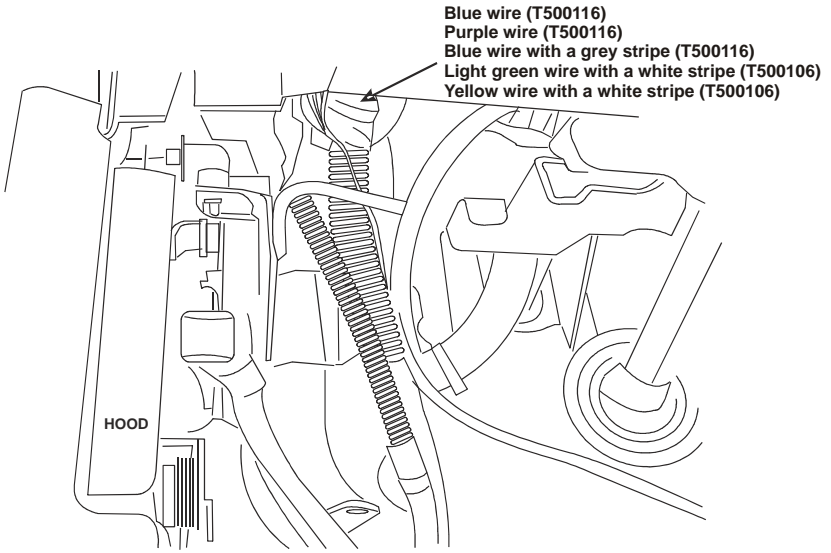

Figure 3
- Solder and seal the white wire to the OEM light green with white stripe Clean Tach Out (CTO - Ford CCT #76) wire located in the bundle of blunt cut wires near the park brake (Figure 3).
- Connect the red wire to the key switched 12V OEM purple wire (Ford CCT CBP44) located in the bundle of blunt cut wires near the park brake (Figure 3).
- Solder and seal the white wire to the OEM blue wire (Clean Tach Out CTO-Ford CCT CE913) located in the bundle of blunt cut wires near the park brake (Figure 3).